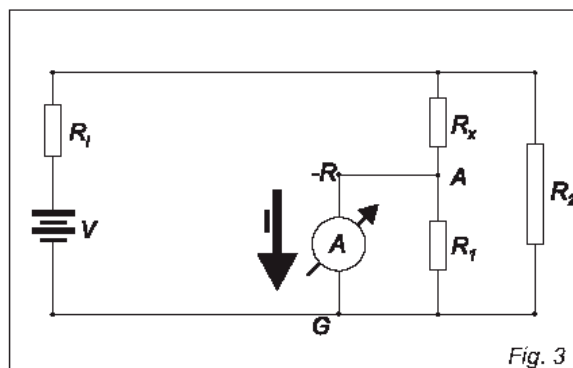

Fig. 3
- 5) The green GUARD (8) terminal is not always used. Application Note #32 explains the use of GUARD (8) terminal in order to minimizing the effect of stray resistances. When measurements are carried out between parts which are none of them is grounded, (like between high-side and low-side windings of a transformer), GUARD (8) terminal must be connected to ground in order to fix the apparatus potential. **At any time a measurement is performed, either the -R (7) or GUARD (8) terminals must be connected to ground but never both simultaneously.** If none of these terminals are connected to ground, the megohmmeter can reach a high potential that may result in a stable reading. **If both terminals are simultaneously connected to ground, there is a short-circuit between them and consequently the megohmmeter will measure with error.**
- 7) Turn on the apparatus by pressing the ON/OFF (16) key. The ON LED (11) begins to bright.
- 8) Press the START KEY (17). Then the high-voltage generator starts operating and the corresponding indication light turns on at the front panel. The meter pointer will indicate the value of the unknown resistance. If the element to be measured is strongly capacitive it will initially indicate a low resistance value, which will be gradually increased while the charging of that capacitance takes place. The instrument will always begin in the scale 'A'. See fig. 3.
In the circuit of Fig. 3, it may be noted that  $R_1$  is in parallel with a low-value resistance (the one from the microammeter) therefore its influence is reduced during reading.